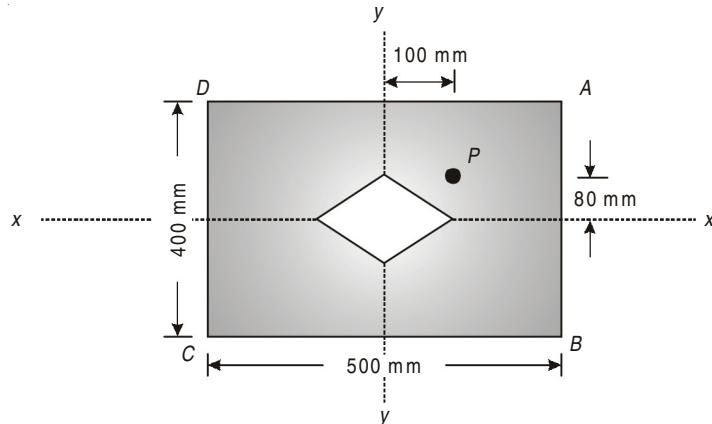

Fig. 7.17
9. A rectangular masonry column has a cross-section 500 mm × 400 mm and is subjected to a vertical compressive load of 100 kN applied at point P shown in Fig. 7.17. Determine the value of the maximum stress produced in the section. Is the section at any point subjected to tensile stresses?